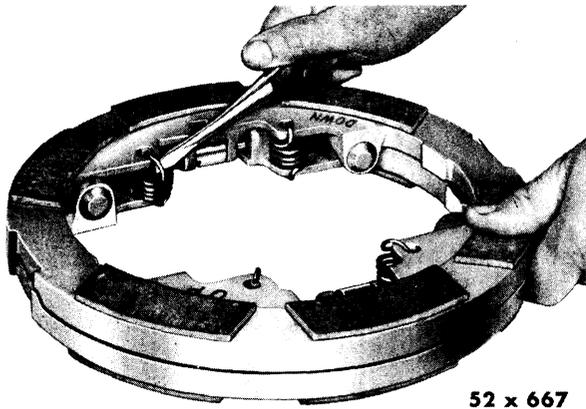

Fig. 55—Removal or Installation of Pressure Plate Retaining Springs (Front or Rear Disc Brake)
- (2) Remove the four pressure plate retaining springs as shown in Figure 55. These coil springs, like the return spring in the shoe-type brake, pull the pressure plates together when hydraulic pressure is released and prevent the plates from maintaining friction contact with the brake housing. A "V" slot cut into one side of a screwdriver will facilitate spring removal.